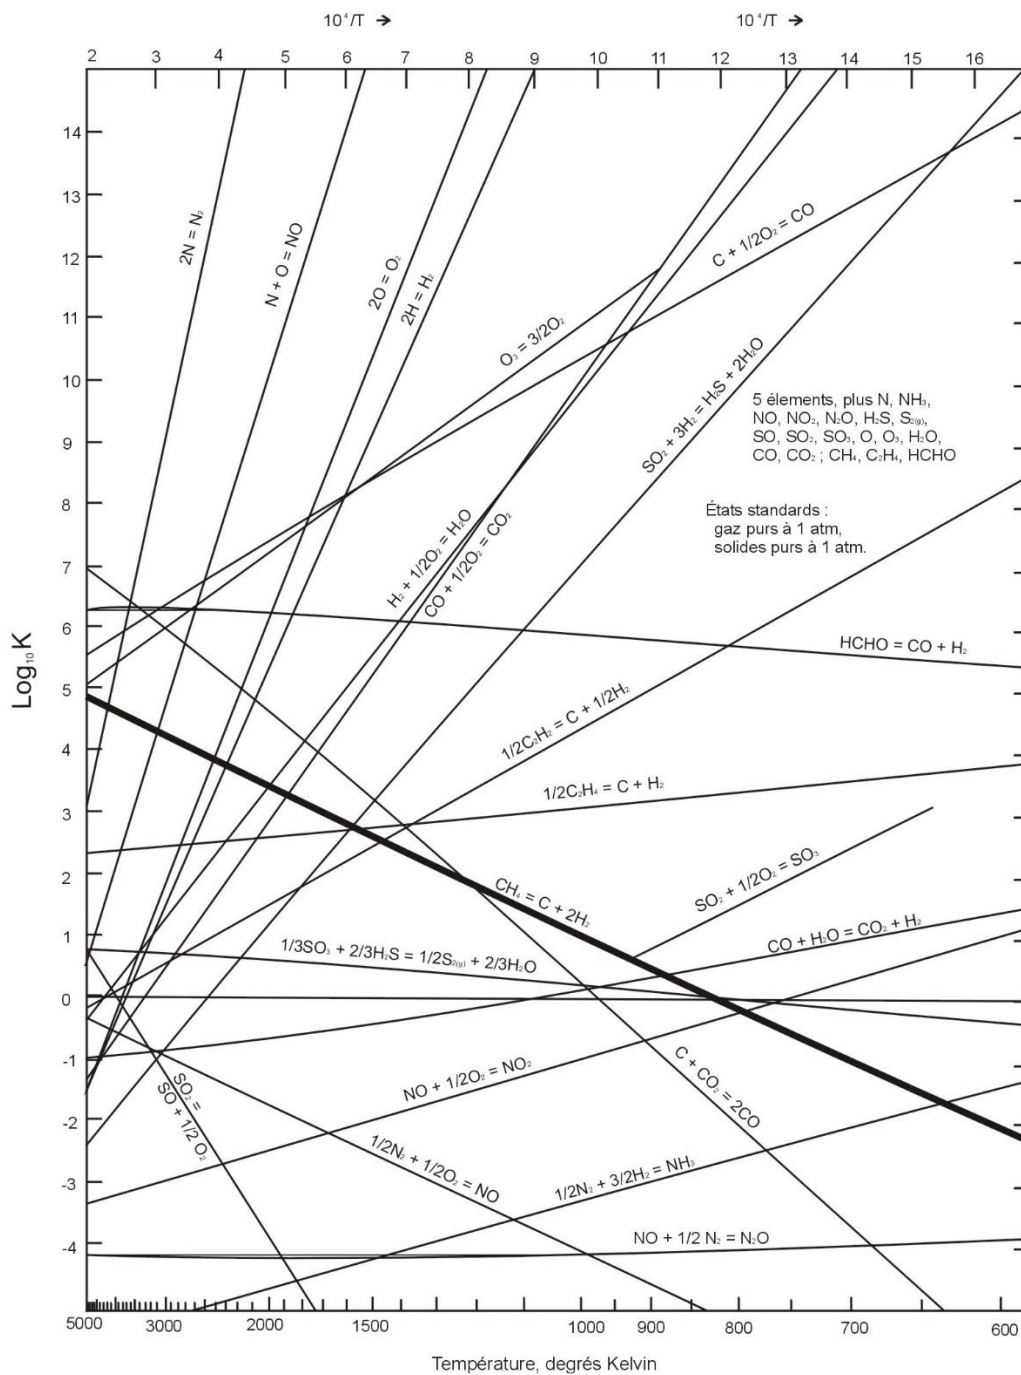

Fig. 2 Equilibrium constants for combustion and reduction reactions.
- Check if the conversion at the exit is 100% based on the equilibrium constant obtained from Fig. 2.